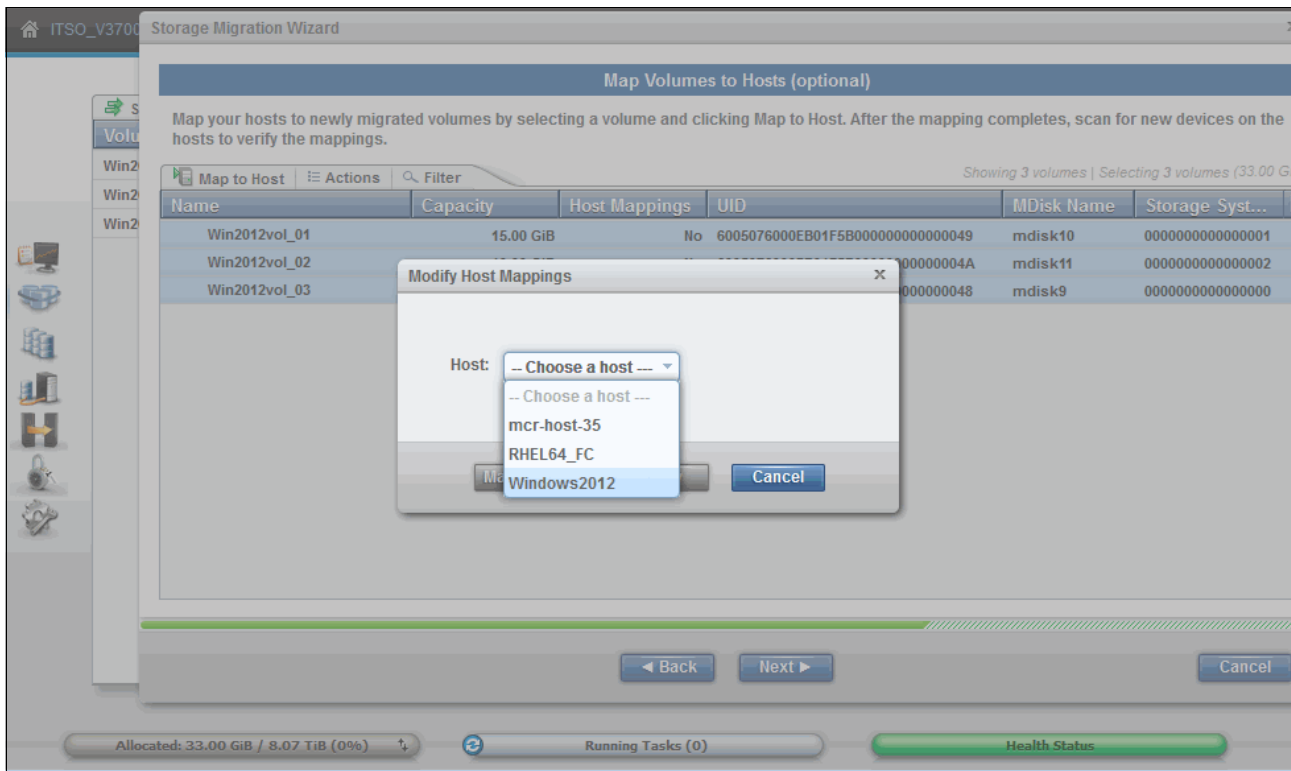

Figure 6-55 Modify host mappings
- A box opens to allow you to choose the host to which the volumes are to be mapped, as shown in Figure 6-55. In this example, you have chosen the previously defined Windows 2012 host.